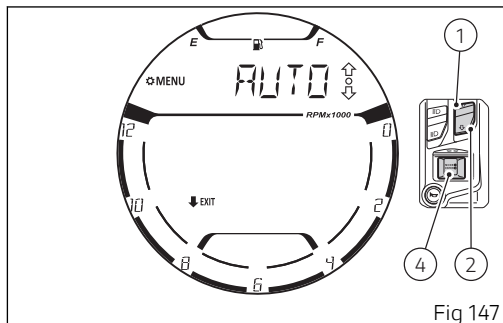

Fig 147
When entering this function, the instrument panel will display the currently set value (Fig 147). With buttons (1) and (2) it is possible to scroll and select (flashing) the available settings: "AUTO", "MANUAL".